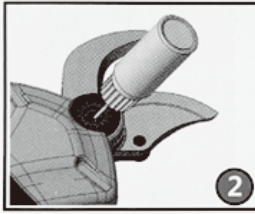

FIG.6
2. Place the oil bottle nozzle in the lubricating inlet (Fig. 6). Hold the oil bottle up-right and then lubricate (oil not included).